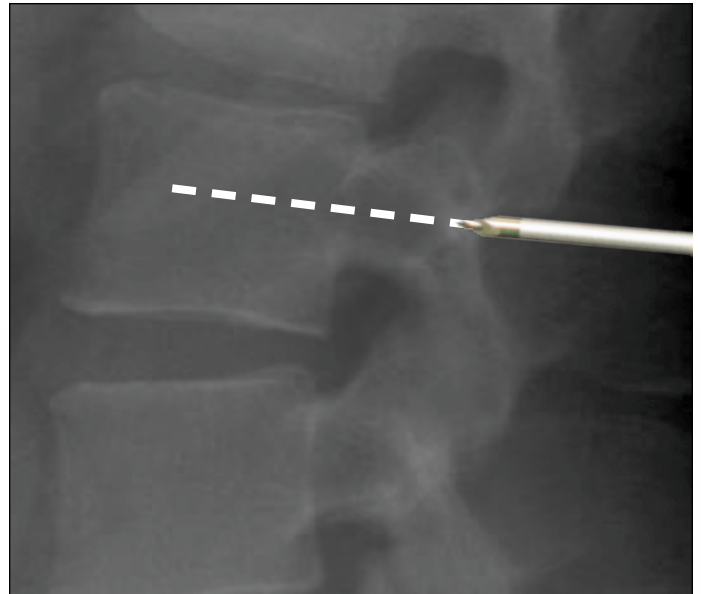

FIG. 7
- Revert to a lateral image and confirm that the Cannulated Awl is centered on the pedicle and the trajectory is coplanar with the pedicle axis. (FIG. 7)